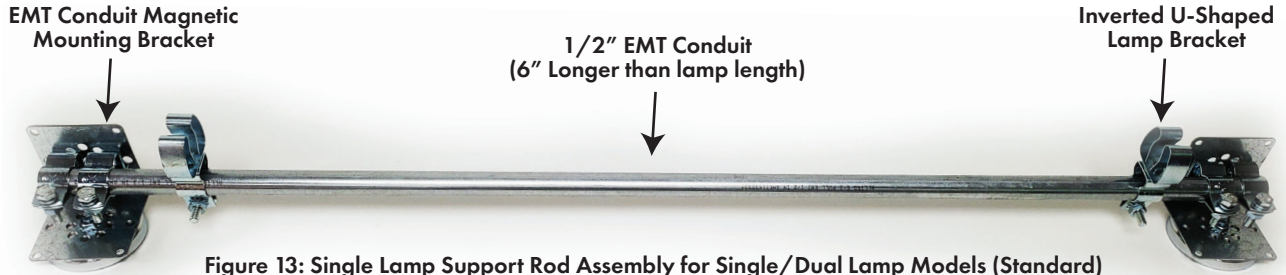

Figure 13: Single Lamp Support Rod Assembly for Single/Dual Lamp Models (Standard)
The Lamp Support Rod is supplied with magnetic foot mounts. The lamp support rod are available in several variations: (Reference Figures 13 through 20)
3. Lamp Support Kits Only - may contain mounting L brackets, lamp support brackets and magnetic disks with assembly hardware all shipped loose. Refer to optional lamp and 1/2" EMT conduit mounting accessories sections for additional information. The installer is responsible to supply the 1/2" EMT conduit, assemble and attach the mounting brackets and lamp support brackets to the EMT conduit (reference Figures 13, 14, 15, 16, 17, 18, 19 and 20) during installation.